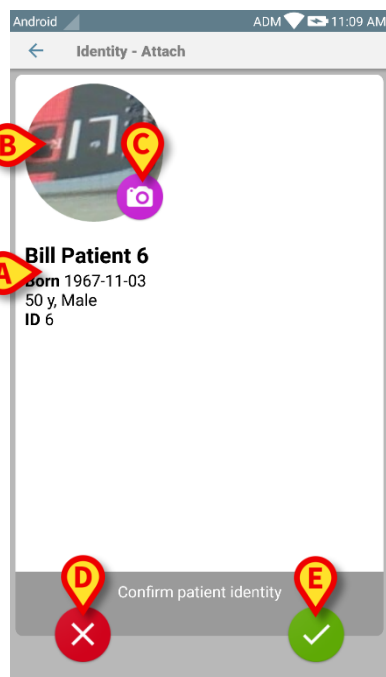

Fig 114
A screen view is provided for the user showing the patient main data and a photo of the patient (if available; otherwise, a generic icon is displayed - Fig 114):
- Patient name, birth date, age, sex, identification code (Fig 114 **A**);
- Patient photo (Fig 114 **B**).
Since a patient photo is missing, by touching the button in Fig 114 **C** it is possible to take a new one. Once a new photo is taken, it is possible to modify it with the aim to select a reduced area suitable to the detailed patient screen view. In Fig 112 is showed the screen of a high resolution screen device (i.e. not a Myco 1/2).
The user can deny or confirm the suggested patient identification by touching respectively the buttons in Fig 114 **D** or Fig 114 **E**. If the patient identification is denied, then the procedure is deleted. If the user has updated the patient photo and the patient identification is denied, then the patient photo update is also denied.